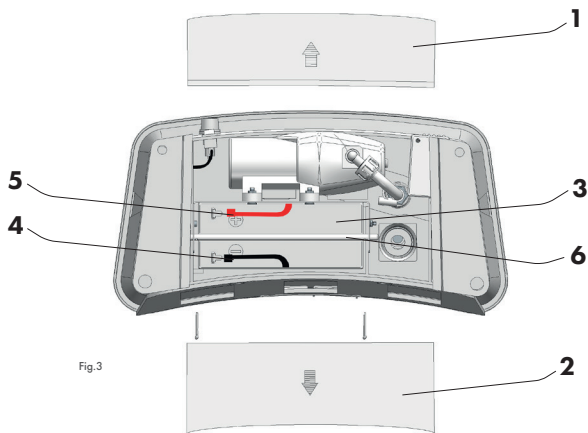

Fig.3
2. Remove the front (Fig. 3/item 1) and the rear cover (Fig. 3/item 2) and check if the battery (Fig. 3/item 3) is connected to the electrical system of the device. **The black connector (Fig. 3/item 4) should be connected to the negative pole (-) and the red connector (Fig. 3/Item 5) should be connected to the positive pole (+) of the battery.**
4. Remove the covers of the pump system and the battery (Fig. 3/item 1 and 2).
5. Disconnect the connectors from the battery poles (Fig. 3/items 4 and 5).
6. Remove the clip pin and the battery protection rod (Fig. 3/item 6),
7. Carefully slide the battery (Fig. 3/item 3) out of the compartment.